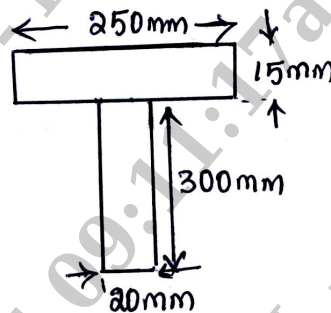

Fig.Q2(a)
- 2 a. Find the shape factor and plastic moment capacity for the section shown in the below Fig.Q2(a).